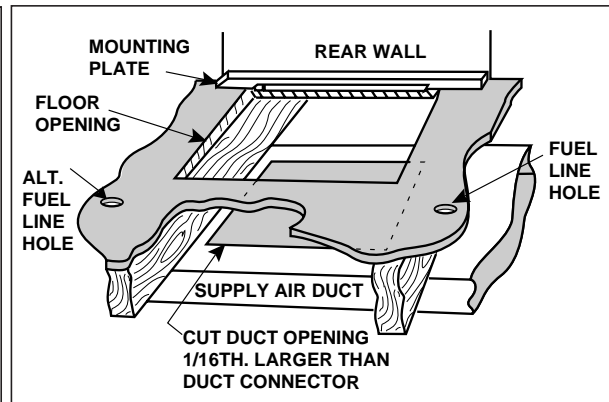

Figure 8. Mounting Plate
- Place mounting plate (supplied within duct connector) at rear of the floor opening (See Figure 8).